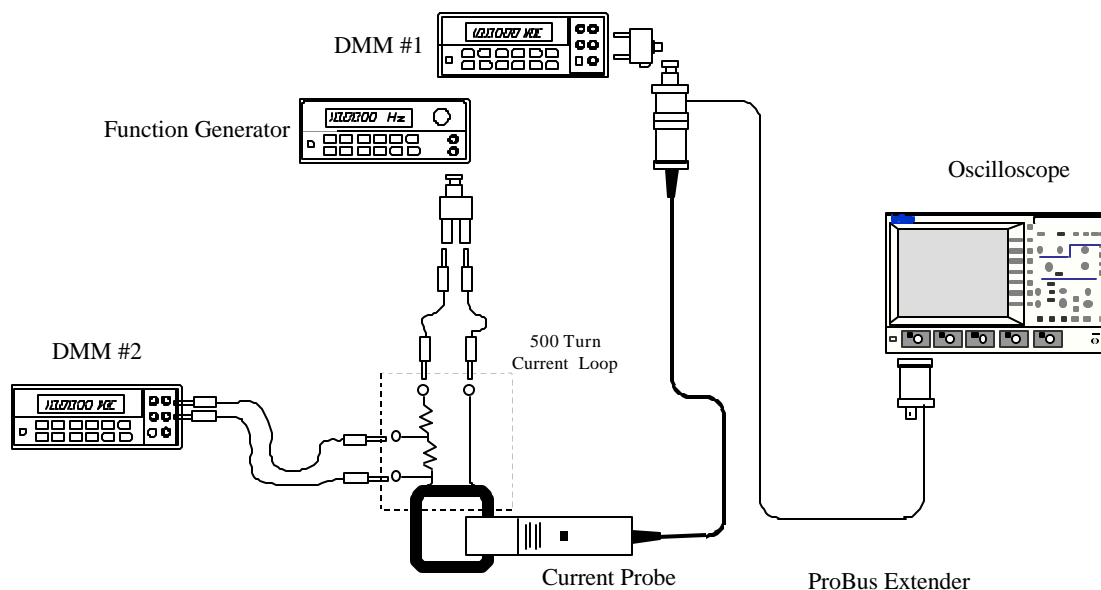

Figure 5-1. DC Accuracy Test Set Up
3. Using the banana patch cords and the BNC to Dual Banana Plug Adapter, connect the 'V Source' and 'V Return' terminals of the 50 Turn Calibration Loop to the output of the Function Generator. (Figure 5-1)